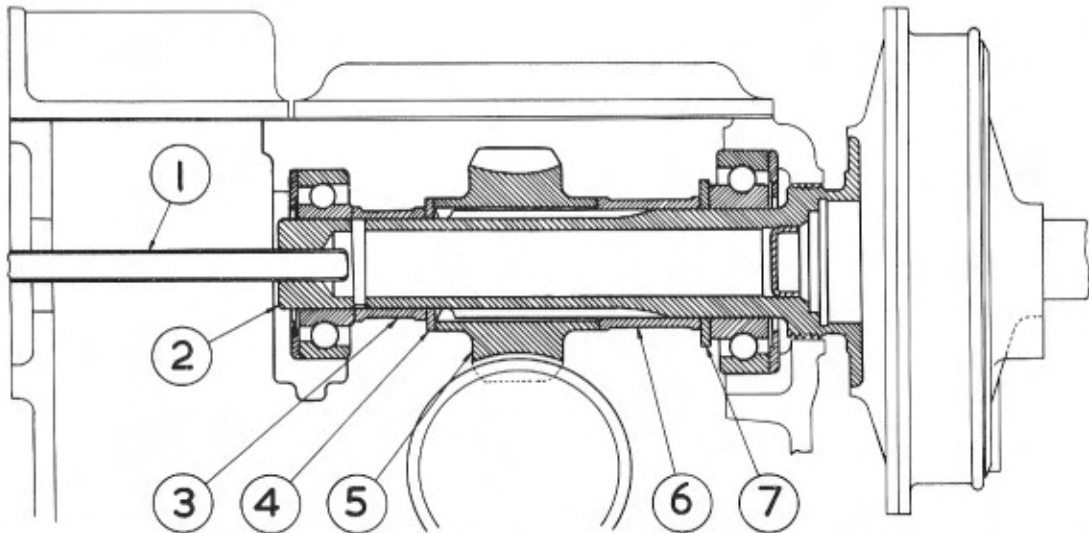

FIG. 1. SECTION - SERVO MOTOR & SPEEDOMETER DRIVE.
- (iii) If the change gear support bracket has not already been removed prior to the removal of the gearbox from the chassis, then unscrew the set-bolts and nuts securing it to the gearbox and remove the bracket complete with the governor casing (if the latter is fitted). Before removal, push the change gear lever towards the gearbox and manoeuvre the unit out of position and withdraw the square speedometer drive shaft. (1 Fig.1).
- (xi) Withdraw the servo drive shaft (2 Fig.1) simultaneously collecting the distance pieces (3 & 6), the adjusting washers (4 & 7), and the worm gear (5). It should not be necessary to remove the ball bearings of the drive shaft.